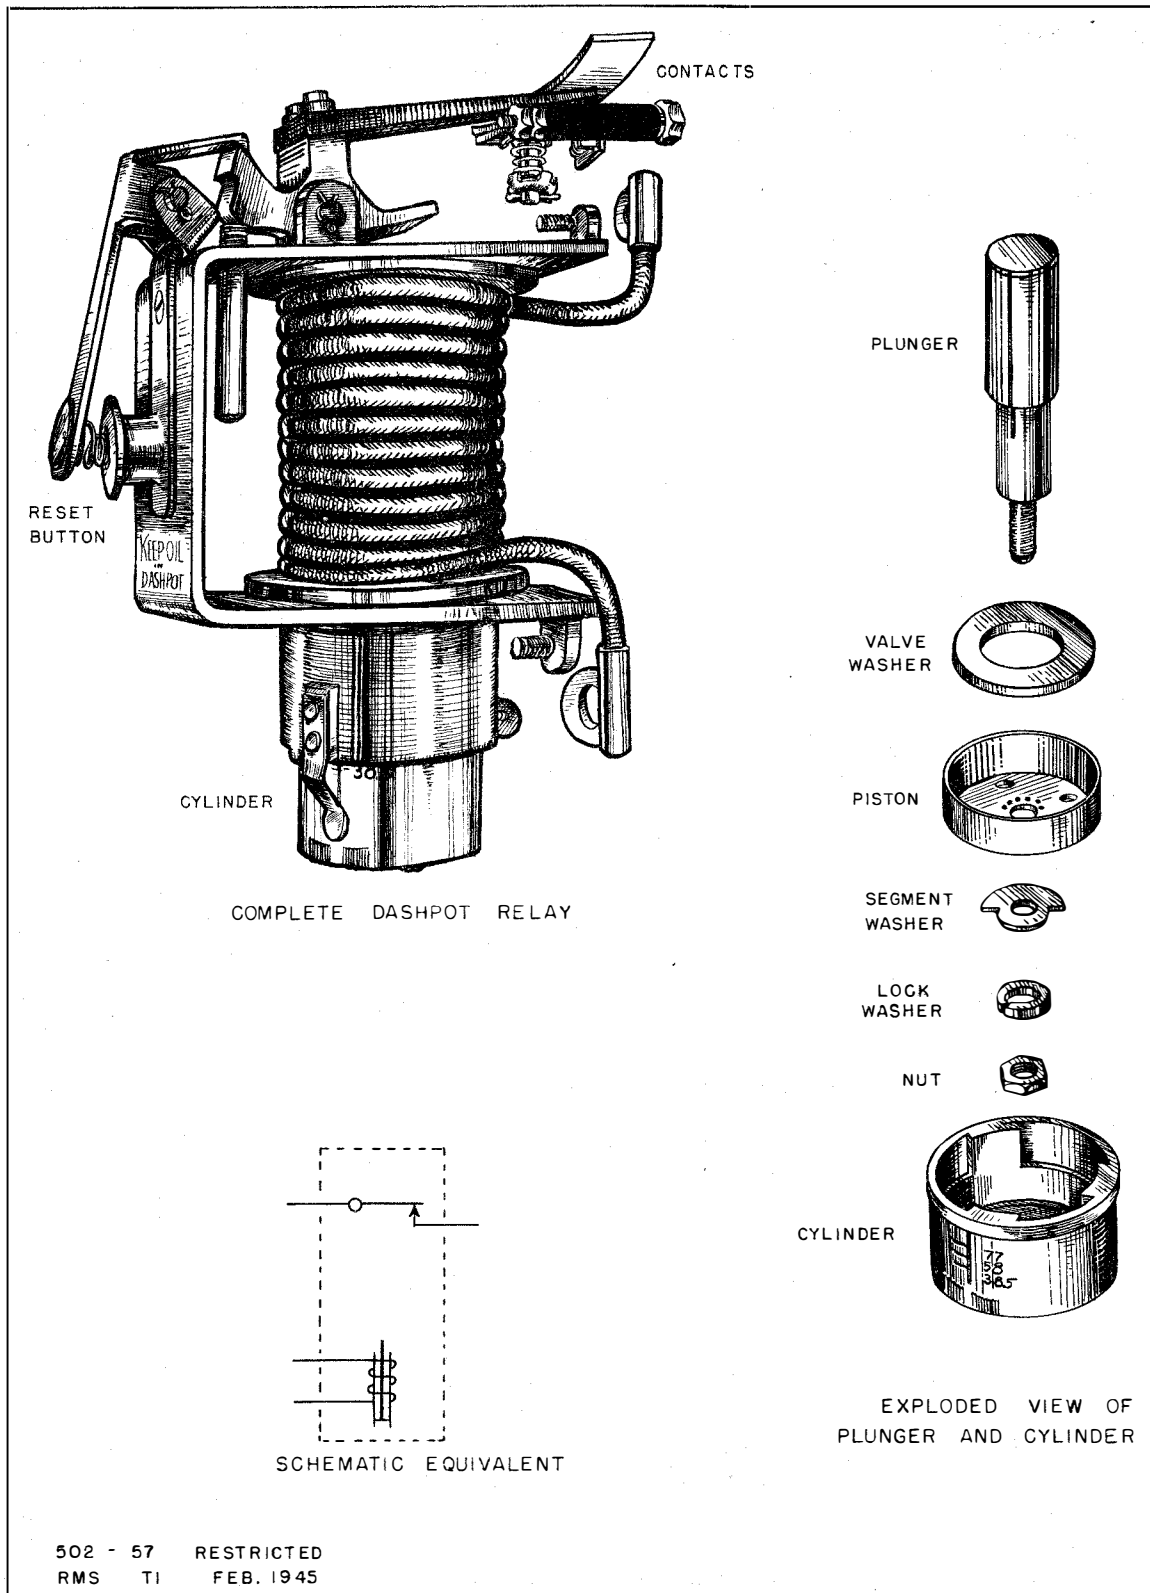

Fig. 57 Typical dashpot type time delay relay.
- (c) The operating coil is a hollow solenoid into which the dashpot plunger may be lifted by the magnetic field. The coil in Fig. 57 has relatively few turns of heavy wire, and is intended to carry from 38.5 to 77 amperes. This relay is suitable for overload protection of a 5-hp, 115-volt DC motor. If the operating coil had several hundred turns of fine wire, a fraction of an ampere would operate the relay, making it suitable for overload protection of a vacuum tube.